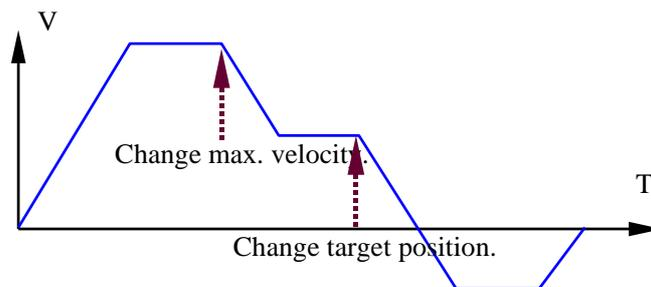

**Fig. 4-3 Velocity Profile of T-curve**
*Fig. 4-3* describes the velocity profile of T-curve. A typical velocity profile of T-curve is described as below.